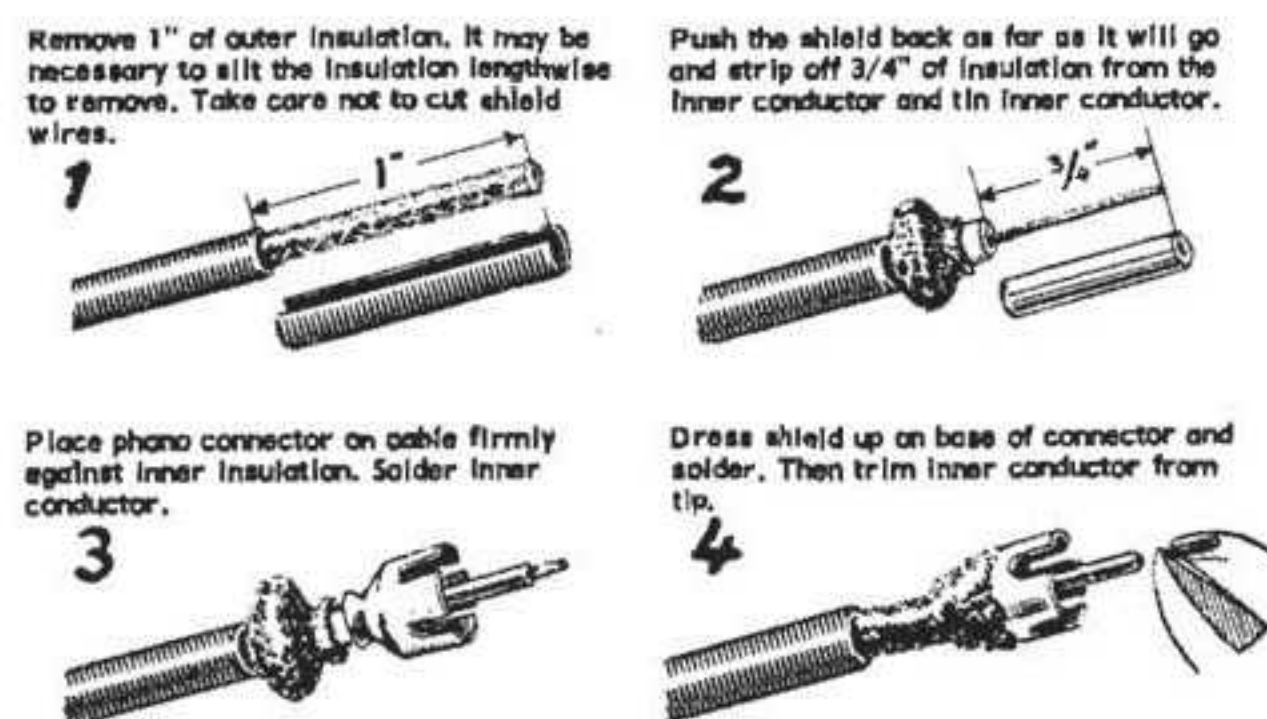

Figure 33
- () Referring to Figure 33, prepare a length of RG-58A/U coaxial cable and attach one of the supplied phono connectors on one end. This is the spotting signal cable run-